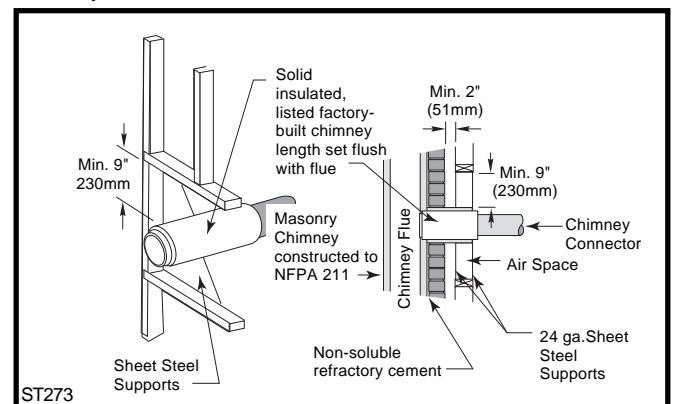

Fig. 8 Wall Pass-through using factory-built insulated chimney section.
- Using a section of double-wall chimney with a 9" (229mm) clearance to combustibles. (Fig. 8)